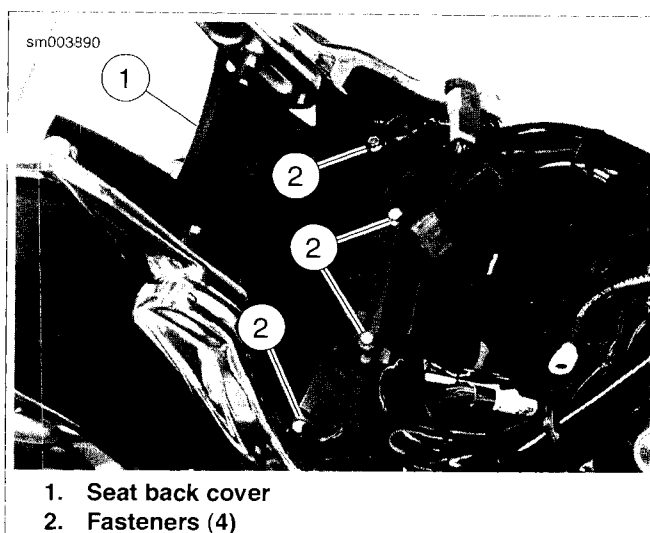

Figure 3-177. Seat Back Cover
9. See Figure 3-177. Remove seat cover (1) to allow for movement of fuse block and harness when removing oil tank.